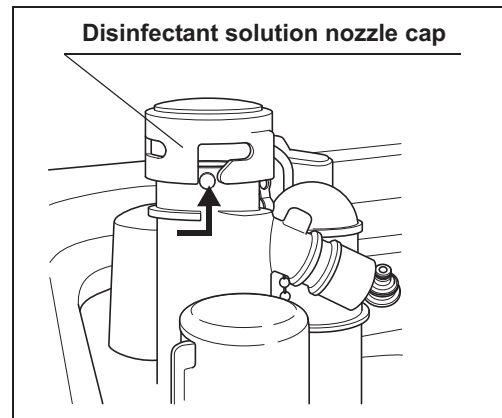

Figure 9.16
- 3** Uncap the disinfectant solution nozzle of the reprocessing basin by turning the disinfectant solution nozzle cap. Refer to the Figure 9.16.